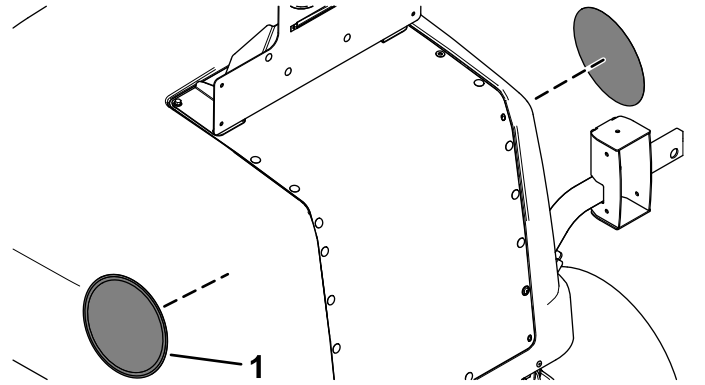

Figure 27
15. Apply the speed decals to each side of the hood (Figure 27).